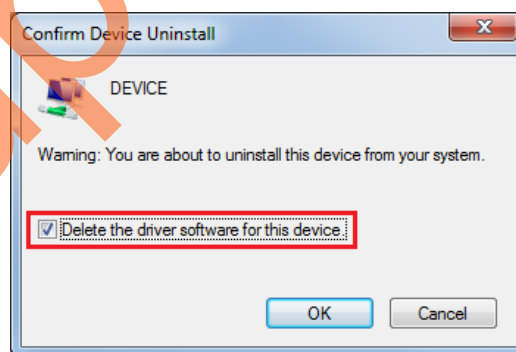

Figure 12 • Confirm Device Uninstall Dialog Box
- c. Click **OK**. After uninstalling the previous version of Jungo drivers, ensure that the PCI Device is detected in the **Device Manager** window as shown in Figure 12.